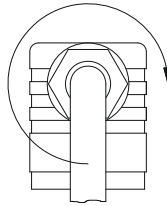

Fig. 9
- ⚡ Press the core ⑧ into the cable socket ② until it locks into place.
- ⚡ Put the central screw ⑥ in the cable socket ② and tighten the screwed cable gland ⑤ M16x1,5 (→ Fig. 9).